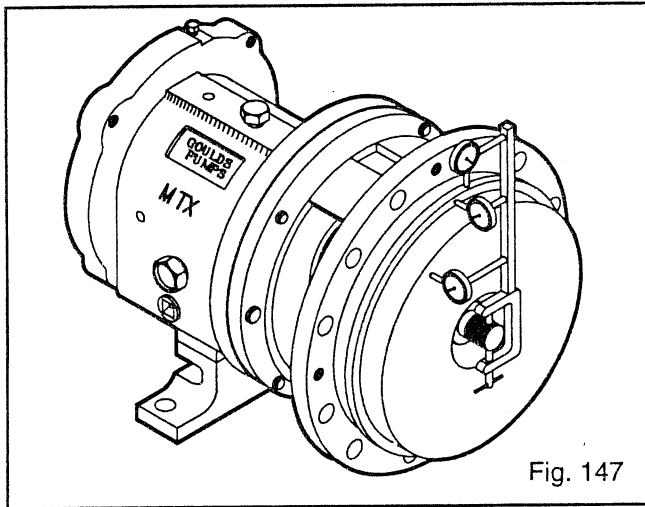

Fig. 147
2. Check seal chamber cover run-out. Rotate indicator through 360 degrees. If total indicator reading is greater than 0.005 in. (.13 mm), determine cause and correct before proceeding (Fig. 147).